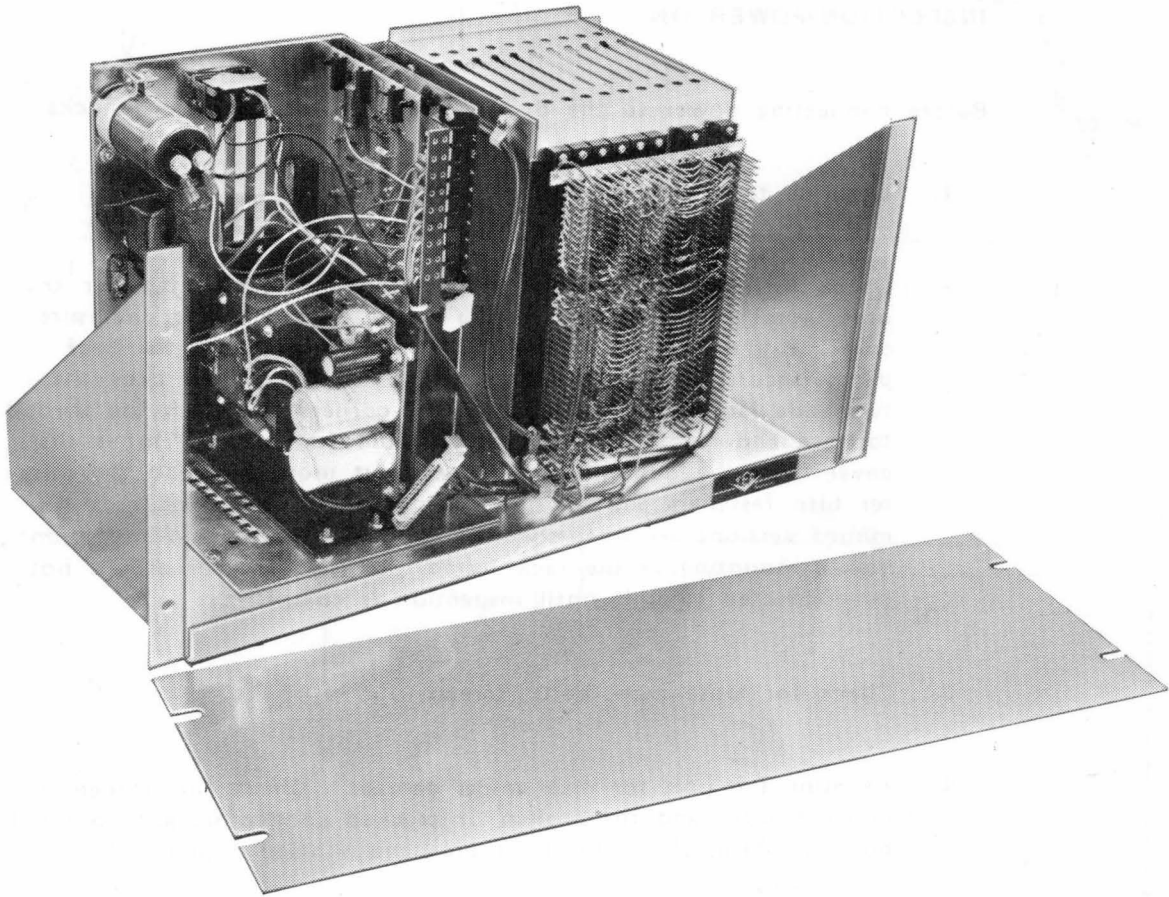

FIGURE 4. RACK MOUNT MODEL WITHOUT MONITOR
- d. Rack mount (for standard 19-inch rack) with 10-1/2" high front panel. Accommodates logic and power supplies only. Designed for use with remote monitors. See Figures 4 and 43.